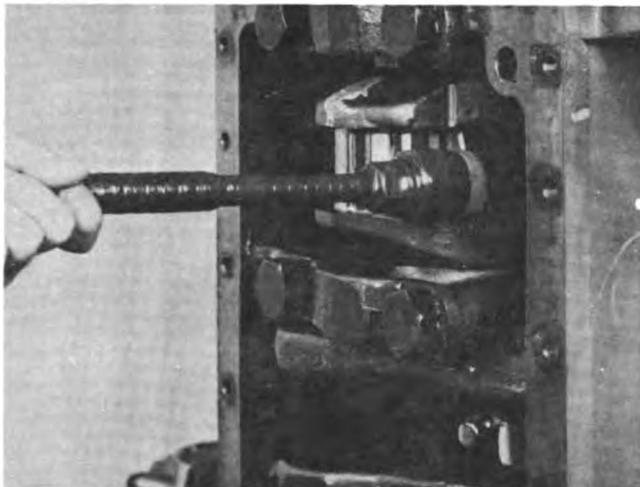

Fig. 0-55 (N100154). Remove The Connecting Rod And Piston Assembly.
3. Install Part No. 3375601 Nylon Guide Screws in the connecting rod to prevent damage to the cylinder liner. Push the connecting rod and piston assembly from the cylinder liner, Fig. 0-55. Make sure each connecting rod and cap has a label or mark for identification.